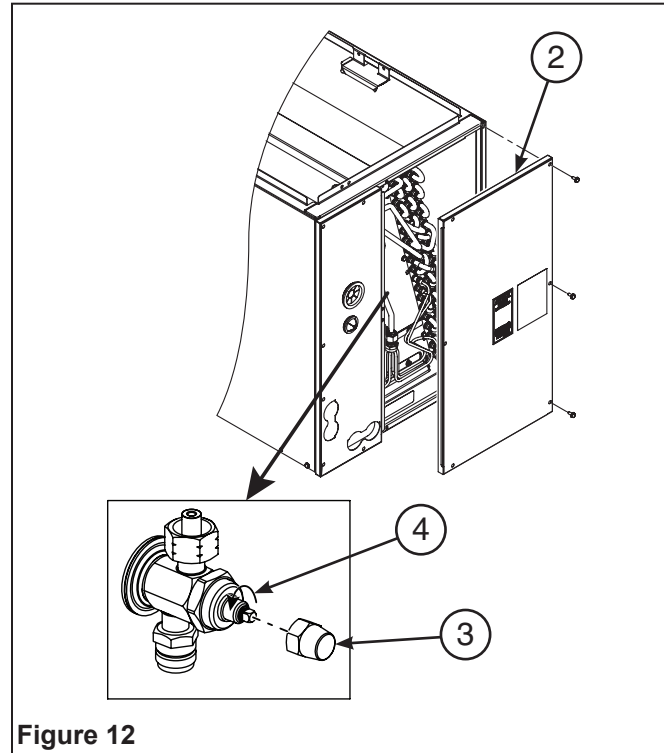

Figure 12
2. Remove coil panel to access TXV (Figure 12).
3. Remove adjustment valve cap (Figure 12). Mark the adjustable valve stem and TXV body to indicate the starting position of the valve.
4. Reduce superheat by turning valve counterclockwise a maximum of $\frac{1}{4}$ turn (Figure 12).